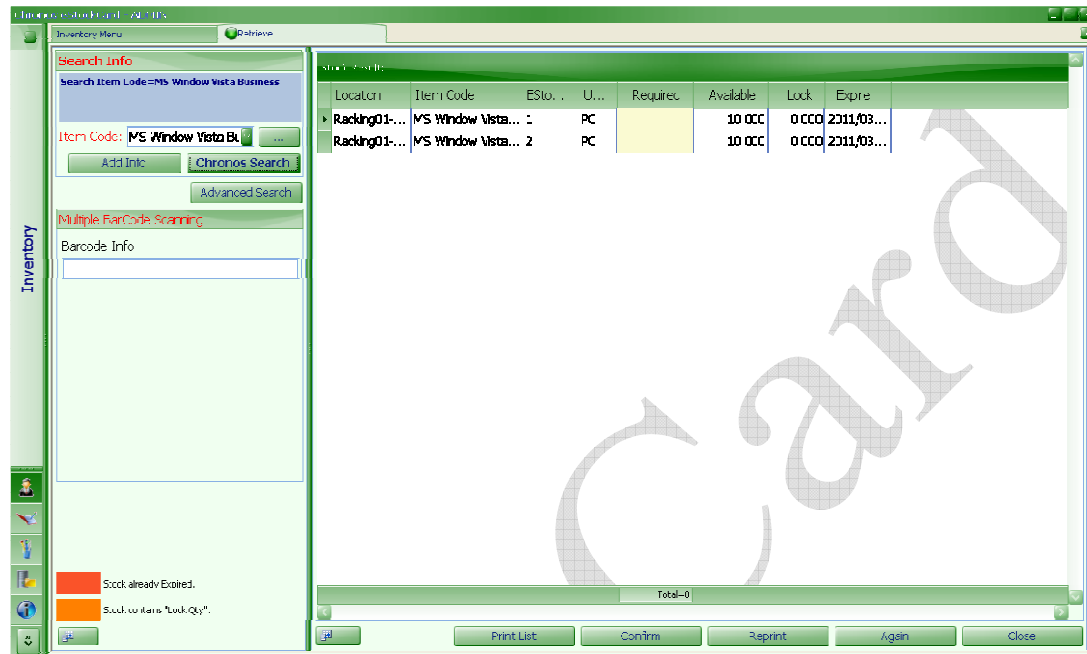

Fig. 44
Step 2 Select “MS Windows Vista Business” from item code’s drop down and click “Chronos Search” (Fig. 44)